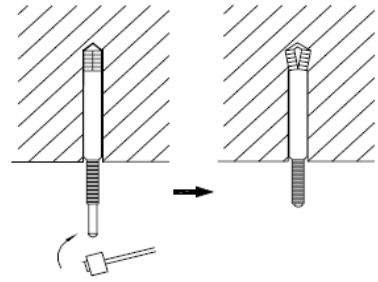

Figure 3-1-28
(3) Insert the anchor bolts into the drilled holes, and drive the pins completely into the anchor bolts with a hammer. (Figure 3-1-28)